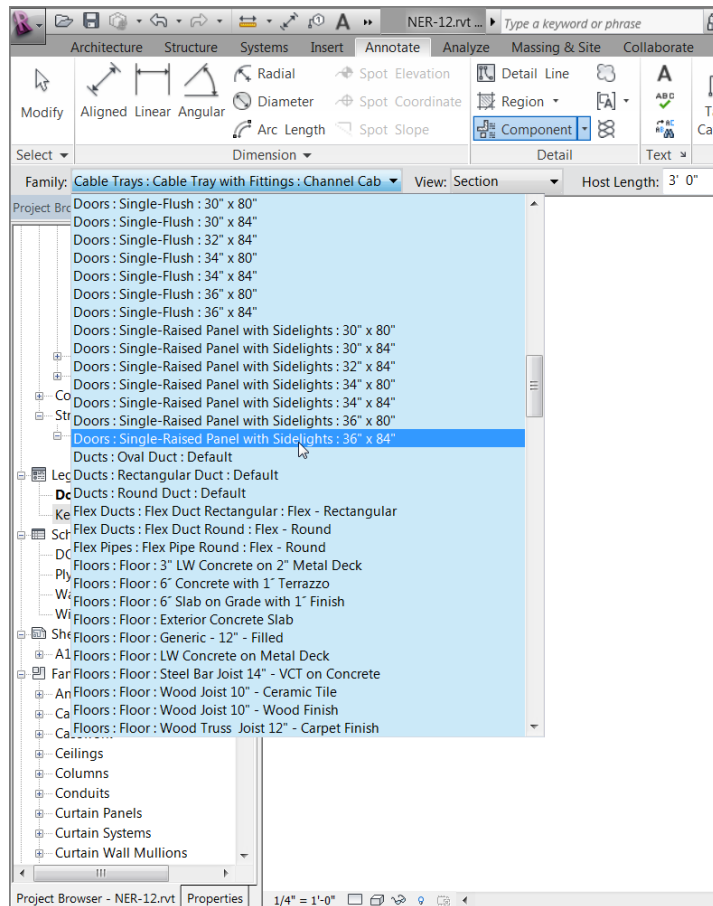

FIGURE 11.41: Changing the options for the legend
3. In the Options bar, choose Doors : Single-Raised Panel with Sidelights : 36gn84", as shown in Figure 11.41.